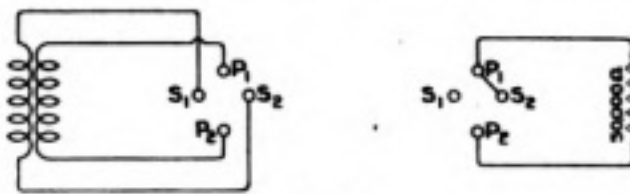

Fig. 7.
(1) Quite a good method, but not capable of covering as long ranges of wavelength as either resistance capacity coupling or interchangeable plug-in transformers. (2) A suitable circuit is shown in Fig. 7, page 438, July 1st issue, which includes the switching arrangement asked for. (3) One only is needed, although an additional separate control to the rectifier is sometimes useful.